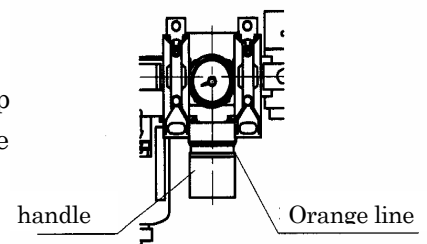

Fig.2
### (3) Regulator pressure (See Fig.2)